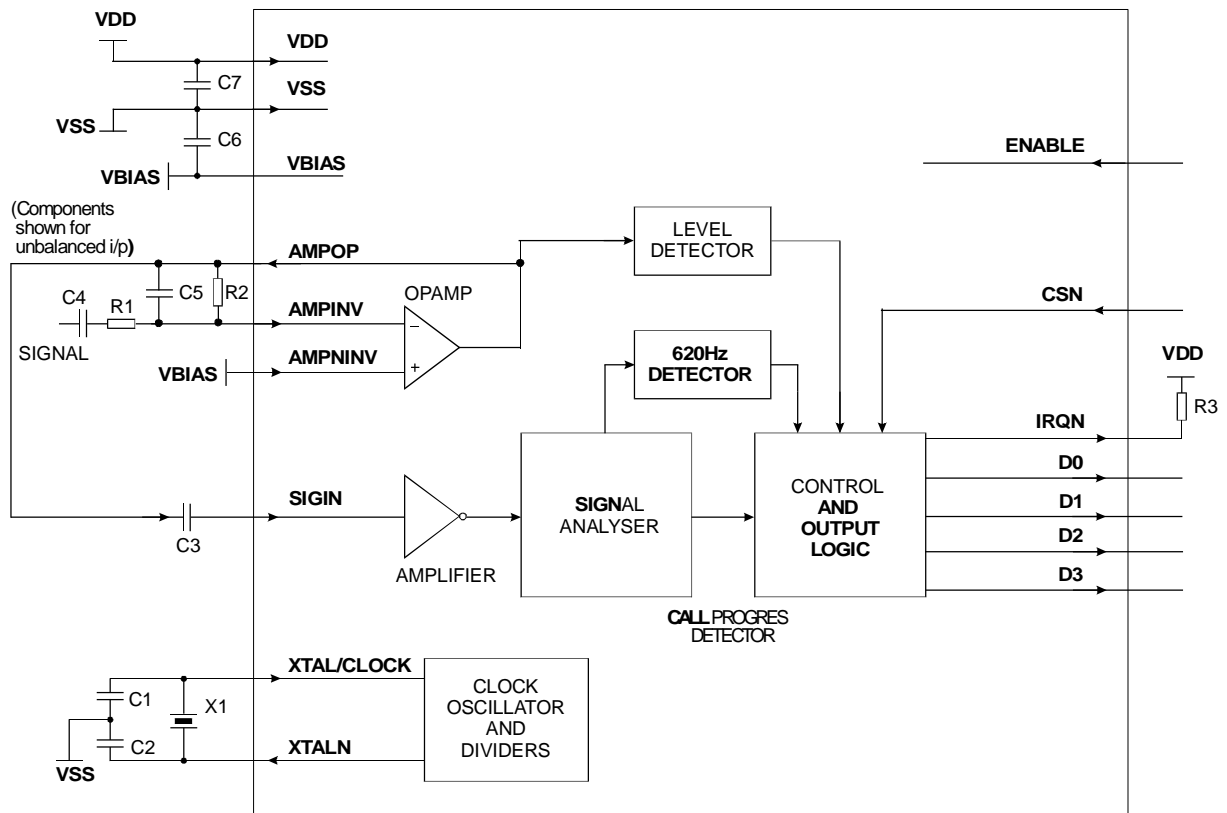

Figure 1 Block Diagram
**Alias Response:** Frequencies above 2300Hz may cause aliasing effects in the Signal Analyser. The use of a low-pass filter in the Input Amplifier, as shown in Figure 1, will help to reduce any aliasing effects.
### 1.5.3 Block Diagram Description (Reference Figure 1)